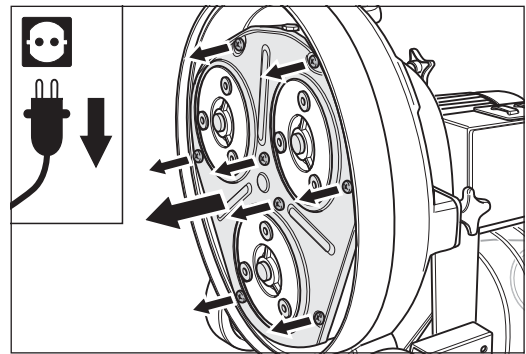

Fig. 75 Remove the eight screws and pull off the cover.
- 3 Remove the eight fixing screws of the cover and remove the cover (fig. 75). Check at this point whether the sealing felt on the inside of the cover needs to be replaced (→ *Section 7.6, Changing the sealing felt on the cover of the inner housing*).